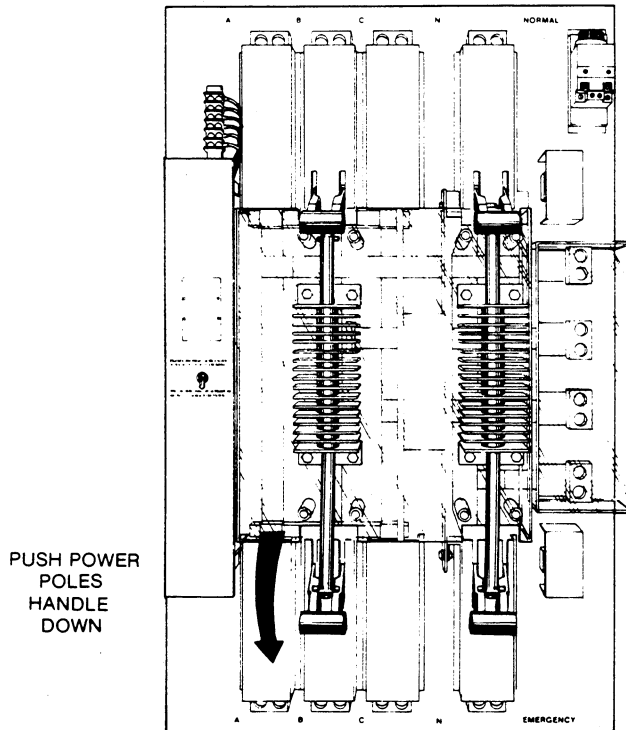

FIGURE 7.
4. Push the lower power pole handle down, as in Figure 7, connecting the load to the emergency power source. This completes the manual transfer switching sequence.